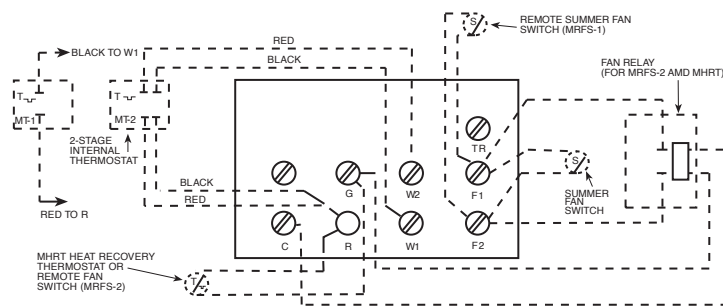

Figure 5. Control Terminal Board (for Heaters With Contactors)
- On units provided with internal contactor (units rated 7 KW and higher) refer to Figure 5 for wiring diagram. Control wiring must be rated minimum 18 AWG.